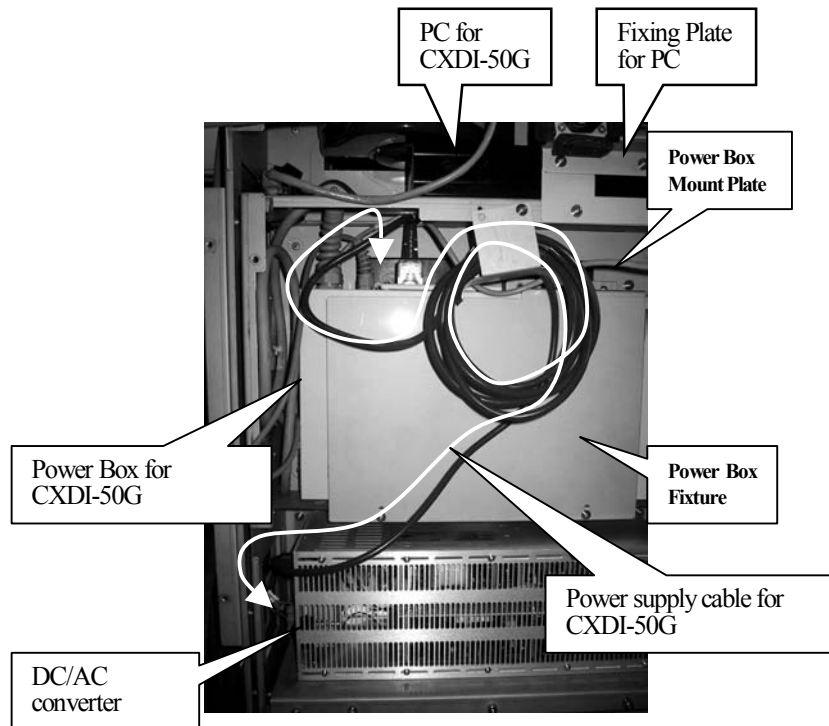

Fig.4-23 Fixing and Wiring of Power Box
5. Connect the power supply cable which is included in CXDI-50G between Power Box and DC/AC converter. (Refer to Fig. 4-23.)